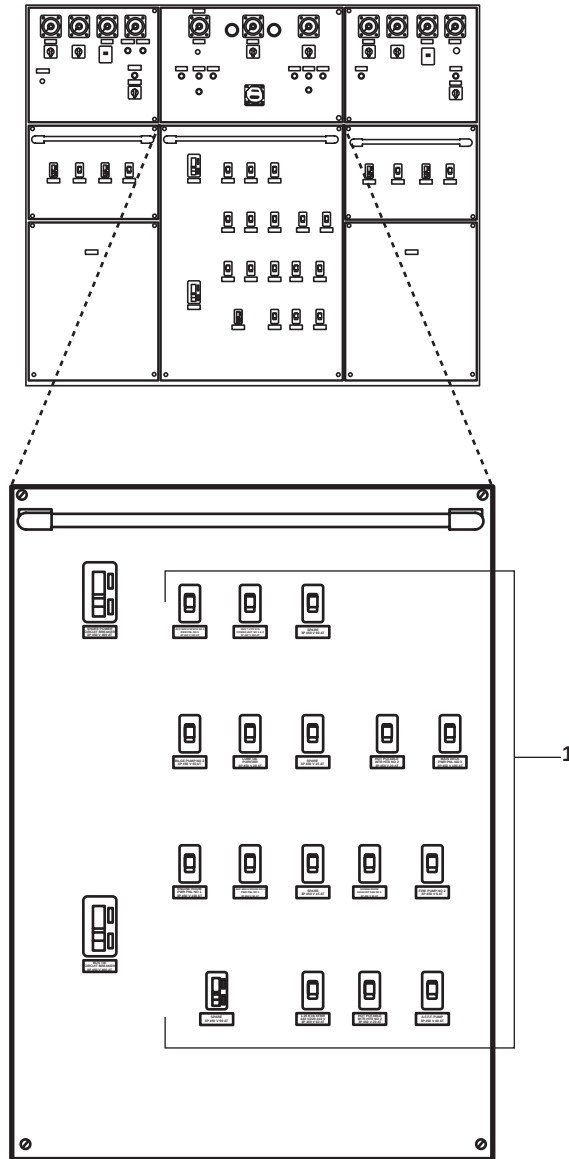

Figure 6. Main Switchboard Bottom Center Panel
Procedures for the repair of the circuit breakers are basically the same as those described in the Middle Left and Right Panels procedure in this work package and illustrated by figure 3. For configuration variance of the circuit breakers (figure 6, item 1) see figure 6.
Procedures for the removal and installation of the circuit breakers are basically the same as those described in the Middle Left and Right Panels procedure in this work package and illustrated by figure 3. For configuration variance of the circuit breakers (figure 6, item 1), see figure 6.